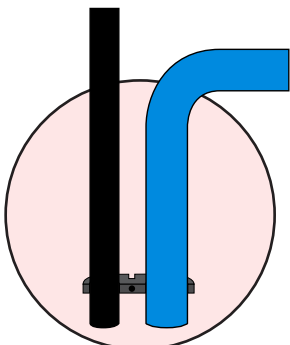

Fig 1.
2. Place the half with the square cut out, around the upright of the barrier (the larger aperture) and place the ground socket in the adjacent smaller aperture making sure that the bottom of the socket is on the ground. (see fig 1)